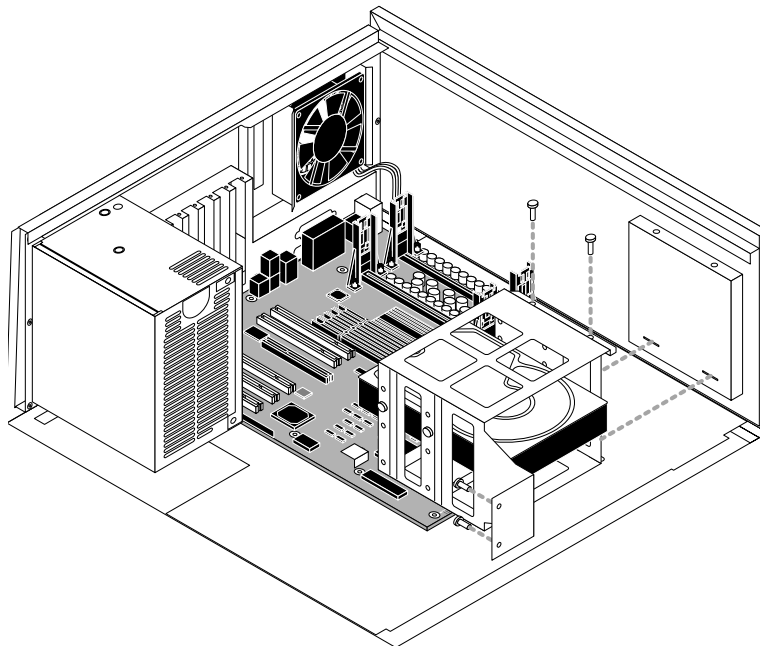

FIGURE 4-27 Removing the HDD and bracket
4. **Remove three of the four screws that secure the HDD bracket to the tray (see Figure 4-27.)**
4. **Insert the hooks on the HDD bracket into the slots on the bottom of the tray and slide the bracket toward the front panel to secure it. (See Figure 4-27.)**